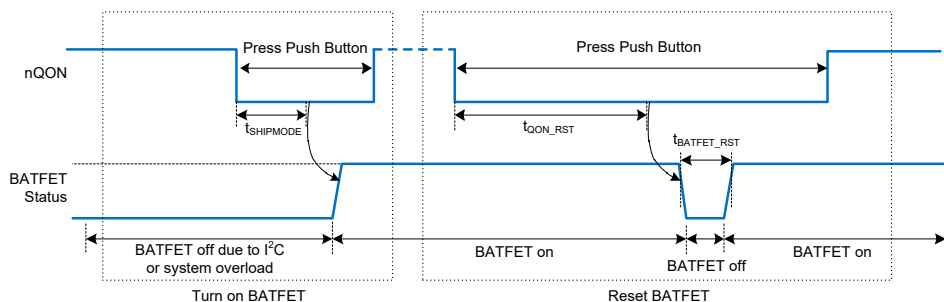

Figure 10. nQON Enable and Reset BATFET Timing
1. Enable BATFET: Applying an nQON logic high to low transition with longer than $t_{SHIPMODE}$ deglitch time (negative pulse) turns on BATFET to exit ship mode (Figure 10 left). HIZ is also enabled (EN_HIZ = 1) when exiting shipping mode. After exiting shipping mode, the host can disable HIZ (EN_HIZ = 0). OTG cannot be enabled (OTG_CONFIG = 1) until HIZ is disabled.
2. Reset BATFET: By applying a logic low for a duration of at least t_{QON_RST} to nQON pin while VBUS is not powered and BATFET is allowed to turn on (BATFET_DIS bit = 0), the BATFET turns off for t_{BATFET_RST} and then it is re-enabled resulting in a system power-on reset (Figure 10 right). This function can be disabled by clearing EN_BATFET_RST bit.